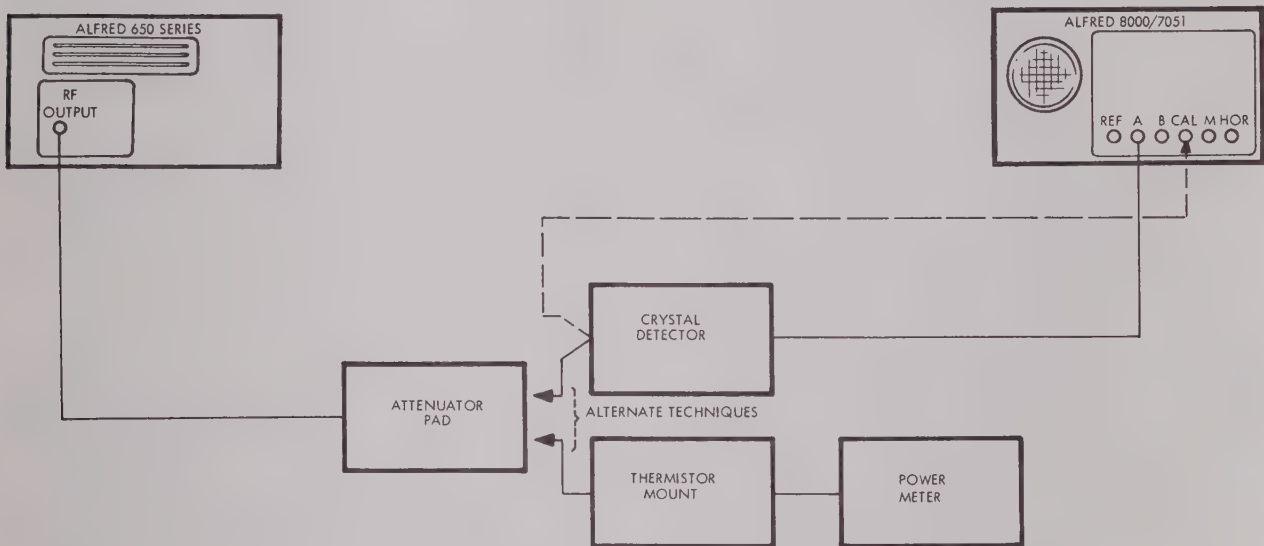

FIGURE 5-4. POWER CALIBRATION TEST SET-UP
5.3.5 POWER CALIBRATION ADJUSTMENT. (See Figure 5-4.) The following adjustment procedure can be used to check and adjust the power output level of the plug-in unit.